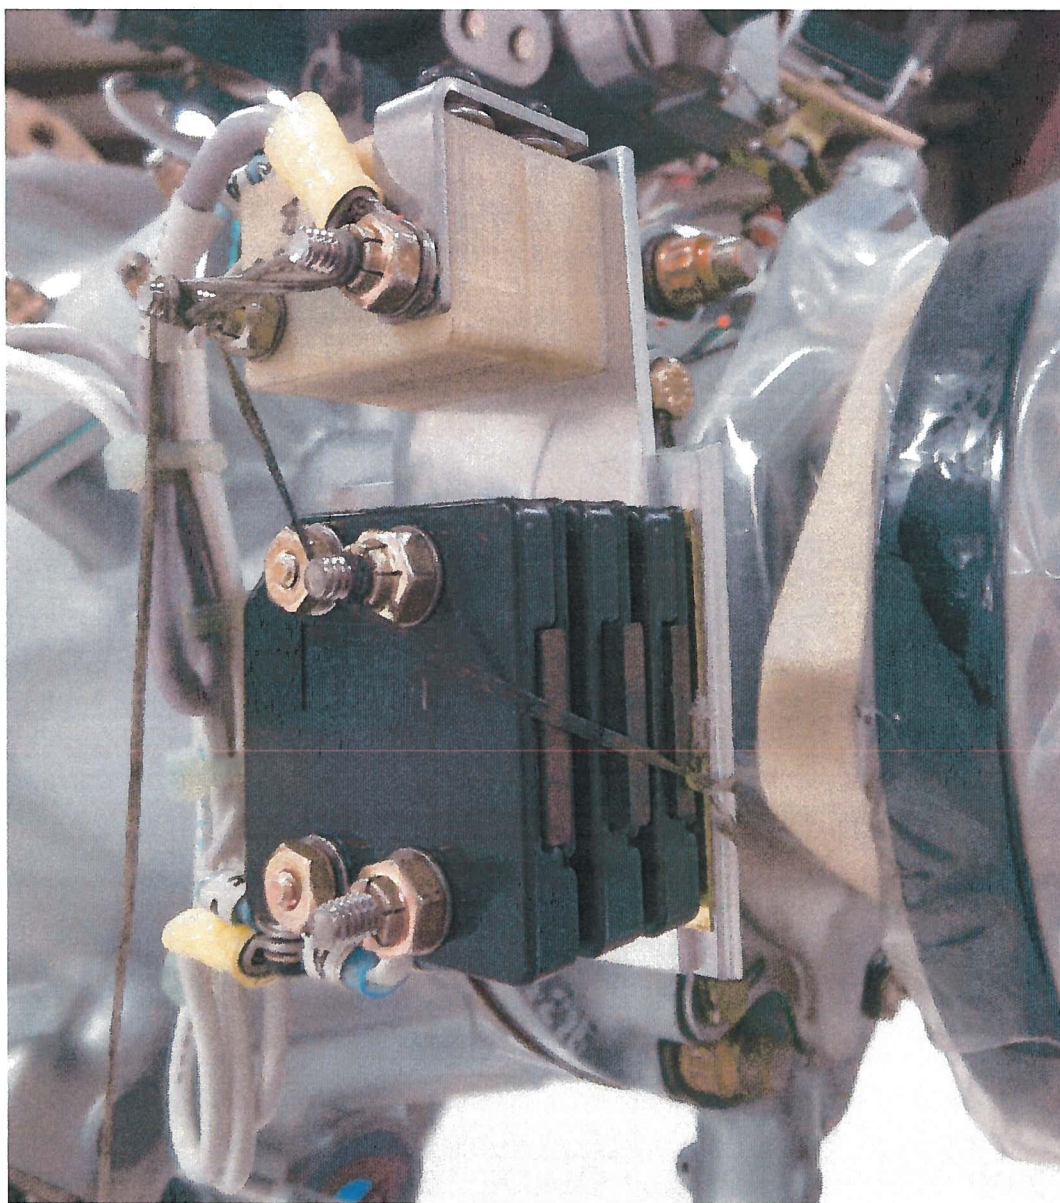

Figure 8
- h) The completed brush block and MOV installation is shown in Figure 8. Temporarily tie-back the brushes in the brush block with string to avoid damage during propeller installation.